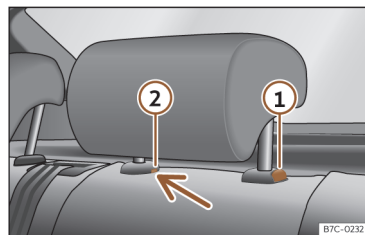

Fig. 87 Rear headrest: removal.
- Press button >>> **Fig. 87 ①**, while simultaneously pressing on the safety hole ② with a flat screwdriver a maximum of 5 mm wide, and remove the headrest.